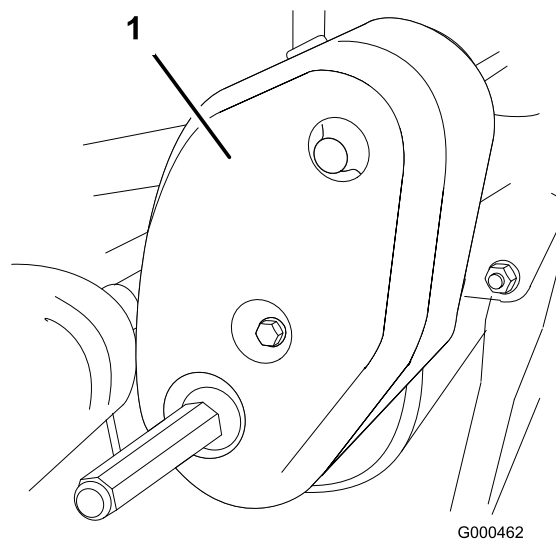

Figure 40
1. Remove belt cover mounting fasteners and belt cover to expose belt (Figure 40).